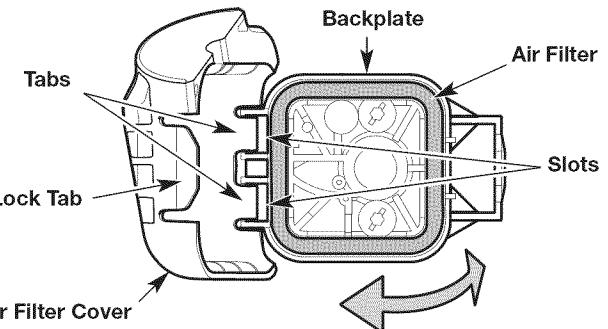

Fig. 18
- Open the air filter cover: press in the lock tab and swing the air filter cover to the left (Fig. 18).
- Remove the air filter (Fig. 18).
- Reinstall the air filter (Fig. 18).
- Close the air filter cover: insert the tabs on the air filter cover into the slots on the backplate. Swing the air filter cover to the right and press it closed until the lock tab snaps into place (Fig. 18).